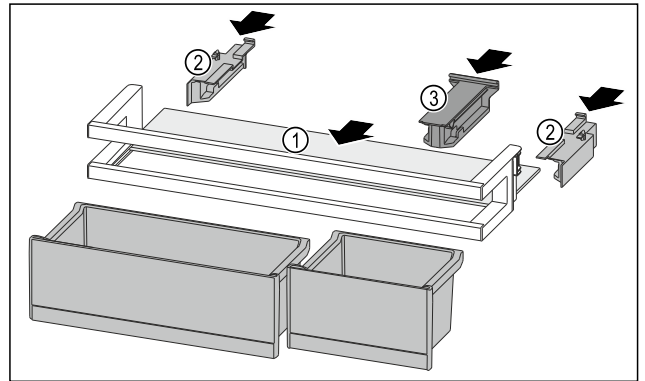

Fig. 241
- ▶ Push the shelf Fig. 241 (1) into the side recesses.
- ▶ Insert the side parts Fig. 241 (2).
- ▶ Insert the holding part Fig. 241 (3).